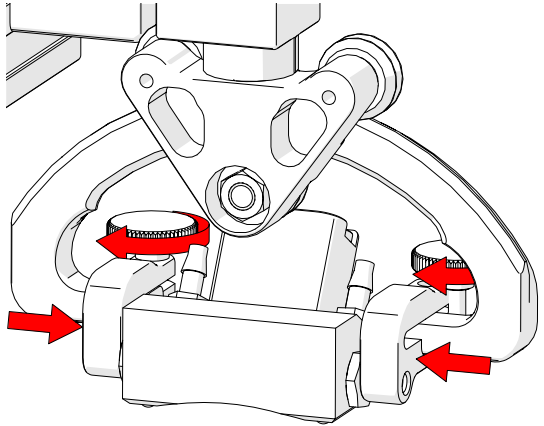

Fig. 230 - Clamp probe with arms and tighten knobs
6. Move the probe holder arms and insert the pivot buttons into the probes pivot button holes while maintaining the probes alignment relative to the yoke's pivot (*Fig. 230*).
7. Tighten the two probe holder arm adjustment knobs (*Fig. 230*).